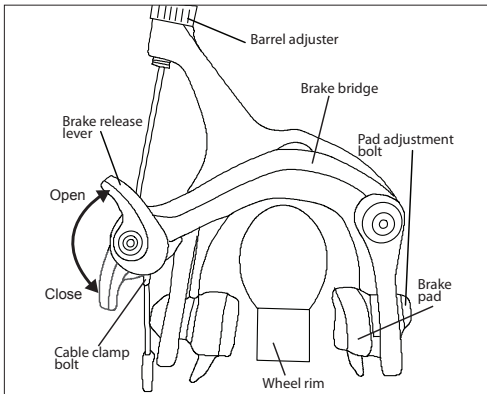

Fig. 33: Caliper brake release lever.
- The caliper brake release lever (Fig. 33, page 31). Not on all models.
- Caliper brake (Fig. 33)
Caliper Brakes (Fig. 33):
Once the wheel is installed, caliper brakes are engaged by moving the brake release lever to the “close” position (see Fig. 33). To release a caliper brake, move the brake release lever into the “open” position. Be sure to squeeze the brake levers to ensure that the brakes are secured in place and functioning properly before riding. For caliper brake adjustment, see Brakes on pages 42-43. Before riding, always check to make sure the brake release lever is in the closed position.
- For caliper equipped bikes, see Fig. 33, page 31.